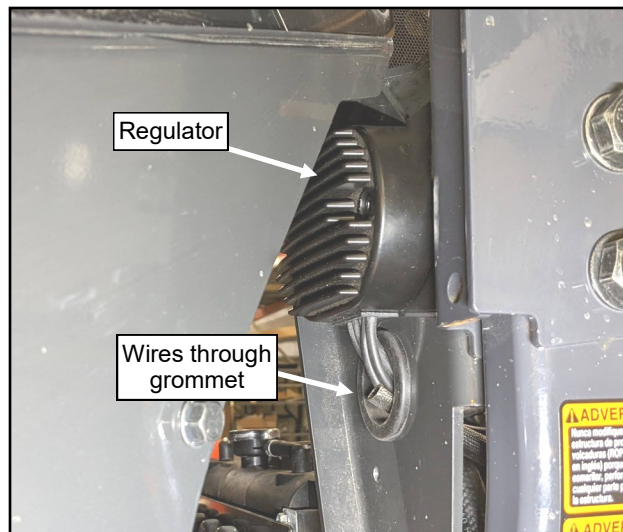
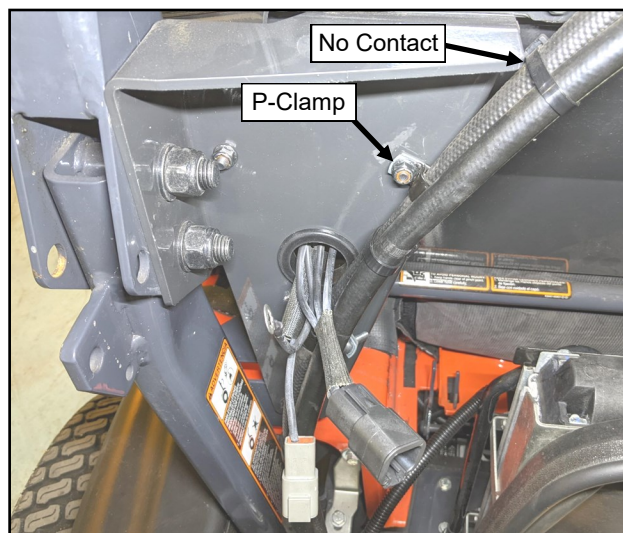
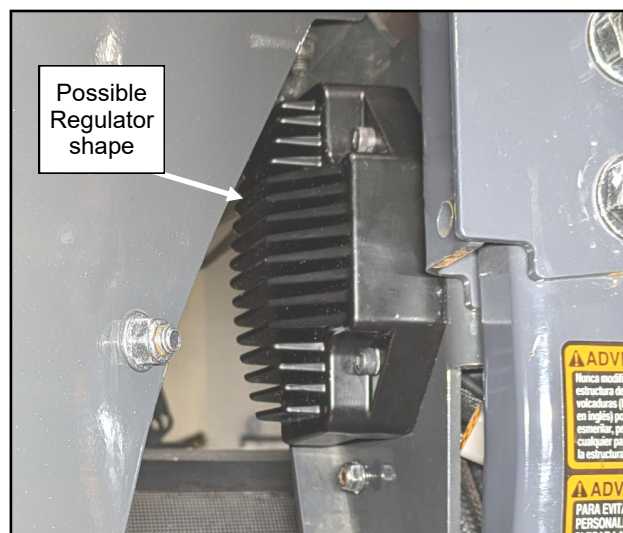

Fig. 6.4a (Secure Regulator to ROPS Bracket)
Fig. 6.4b (Secure Regulator to ROPS Bracket)
Fig. 6.4c (Possible Alternate Regulator version)
- 6.4 See figs. 6.4a and 6.4b. Pass the regulator wiring through the grommet and install the regulator to the front of the left ROPS bracket. With one of the regulator mounting bolts and nuts, secure the A/C hose with a p-clamp as shown in figure 6.4b. Twist clamp and adjust hose position so that hose does not contact sharp edges of ROPS bracket.
Note: The supplied regulator might look like the version shown in fig. 6.4c. Pass the regulator wiring through the grommet and install the regulator to the front of the left ROPS bracket. With a button head bolt and nut, secure the A/C hose with a p-clamp as shown in figure 6.4b. Twist clamp and adjust hose position so that hose does not contact sharp edges of ROPS bracket.
- 7.1 See fig. 7.1. Connect the dynamo and regulator power wiring harnesses to the regulator. Further down the ROPS bracket than in fig. 6.4b on the previous page, secure both the regulator and power harness ground wire ring terminals together between another p-clamp on the A/C hose and the ROPS bracket. Twist clamp and adjust hose position so that hose does not contact sharp edges of ROPS bracket.